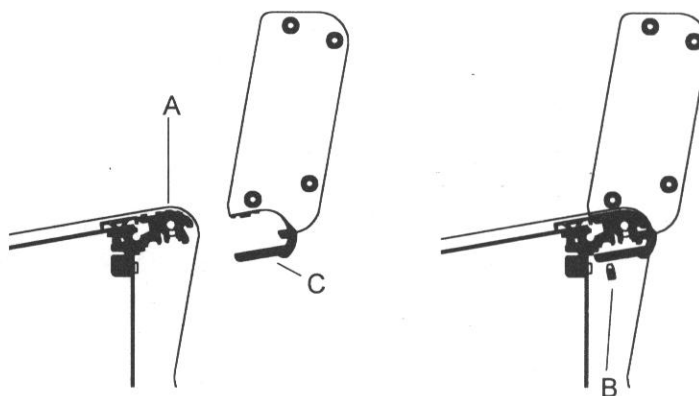
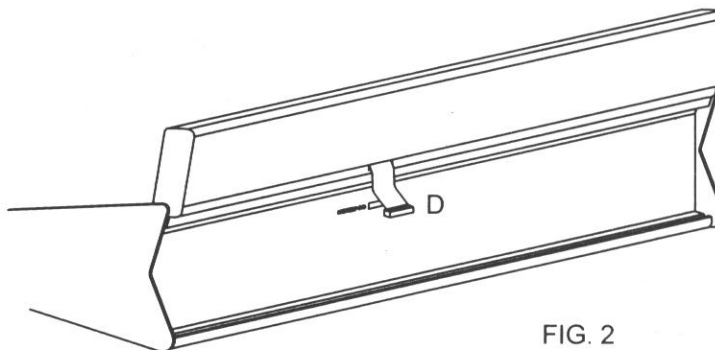

FIG. 1
FIG. 2
- 1.) Carefully unpack the meterpod and fit it over the console rear extrusion (A) as shown in fig 1. Make sure all of the grub screws (B) are fully withdrawn from the meterpod extrusion (C) before fitting.
- 2.) Once the meterpod is in place, tighten the grub screws (B) to secure the meterpod in place.
- 3.) Plug in the meterpod harness (D) into the connector marked **METERPOD** on the rear panel of the console. See fig. 2.